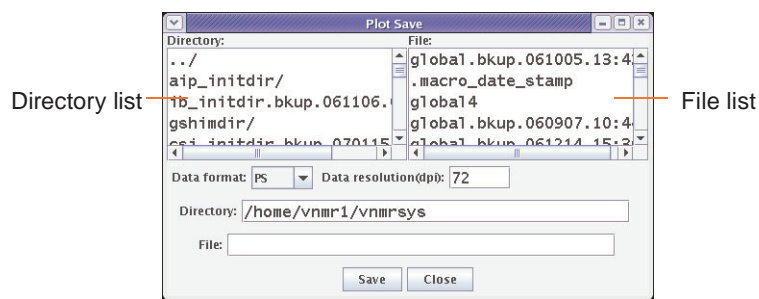

Figure 32. Plot Save Window
1. Click on **File** in the Main Menu, then **Save Data** to open the Plot Save window shown in Figure 32.